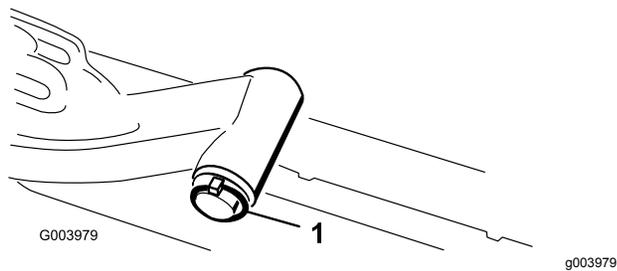

Figure 11
- A. Remove the lynch pin and washer securing the lift-arm-pivot shaft to the lift arm and slide the lift-arm-pivot shaft out of the lift arm (**Figure 11**).
- C. Insert the lift-arm shaft into the lift arm and secure it with the washer and lynch pin (Figure 11).